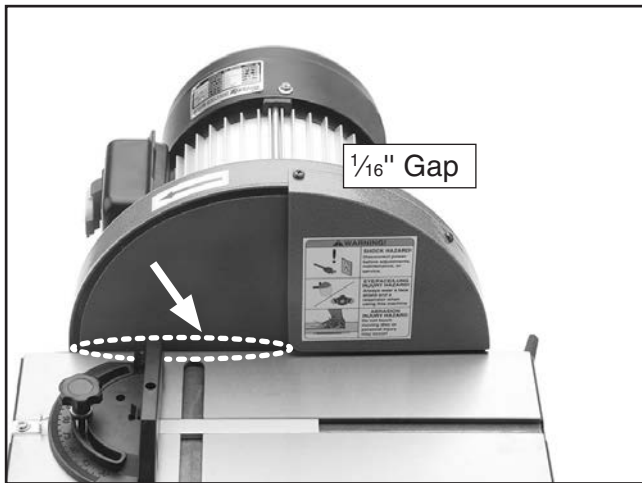

Figure 17. Table parallel with sanding disc.
3. Adjust the table so that there is a $\frac{1}{16}$ " gap (**Figure 17**) between the 12" disc (with sandpaper installed) and the table.